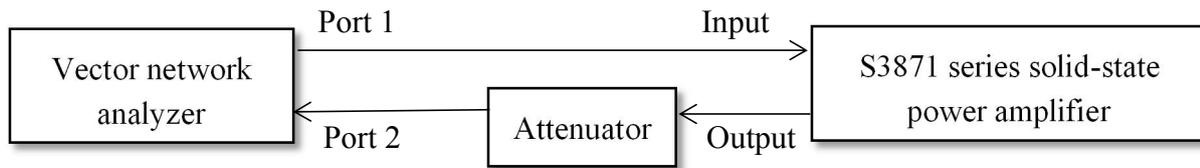

Figure 5-1 Gain and standing wave testing diagram
- ① Turn on the power of the amplifier and 3672 for preheating for 30 minutes.
- ② Set 3672 to [Test], [S21], [Format], [Log Amplitude], power of -40dBm, frequency of 32GHz to 40GHz, frequency sweep time of 1s, and number of measurement points of 101.
- ③ Connect the test cable of port 2 of 3672 with the attenuator, and then carry out dual-port calibration of 3672 after connection with the attenuator. The attenuator adopts a high-power fixed attenuator with the attenuation value greater than 30dB, and the continuous wave carrying power must be greater than 10W. The recommended model is 89-30-21 manufactured by Weinschel Company.
- ④ Turn the gain regulator on the front panel of the S3871FB solid-state power amplifier clockwise to the end, conduct the gain test according to the connection system shown in Figure 5-1, and record the value S21 as the gain value of the amplifier.
(2) Input port voltage standing wave test
- ② Set 3672 to [Test], [S11], [Format], [SWR], power of -40dBm, frequency of 32 GHz to 40 GHz, frequency sweep time of 1s, and number of measurement points of 101.
- ③ Carry out dual-port calibration of 3672.
- ④ Turn the gain regulator on the front panel of the S3871FB solid-state power amplifier clockwise to the end, conduct the SWR test according to the connection system shown in Figure 5-1, and record the value S21 as the SWR value of the amplifier.
(3) Max. Output Power, Max. Input Power and Output Power Flatness Tests